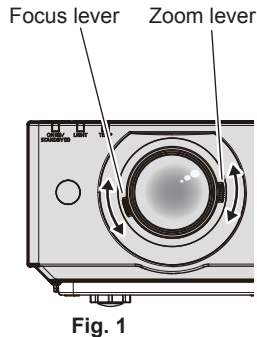

Fig. 1
1) Adjust the zoom and the focus. (Fig. 1)